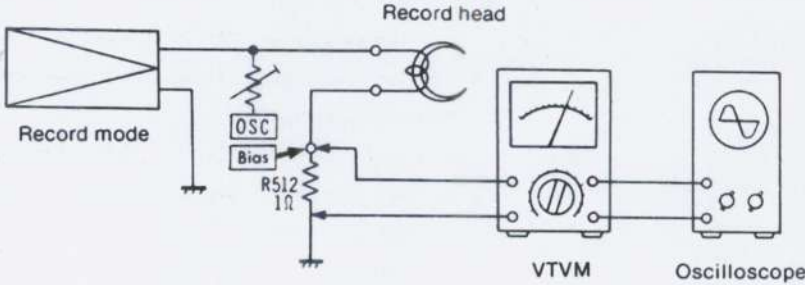
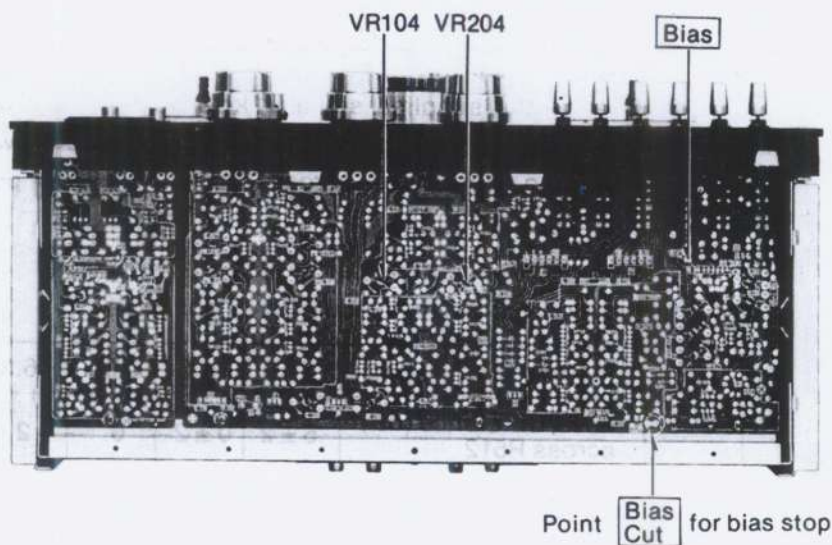

Fig. 61
Fig. 62
Bias current	<ol style="list-style-type: none"> 1. Test equipment connections are shown in fig. 61. 2. Set the bias selector to "2" position. 3. Set the tape speed to 38 cm/s. 4. Set the unit to the recording mode. 5. Set the recording mode selectors: L-CH to ON and R-CH to OFF. 6. Measure voltage across R512 (1Ω) (at point Bias) shown in fig. 62. 7. Next set the record mode selectors: R-CH to ON and L-CH to OFF. 8. Measure voltage at point Bias. 9. Bias current is calculated by formula below. $\text{Bias Current} = \frac{\text{Voltage read on VTVM}}{1\ \Omega} \text{ (V)}$ <div style="border: 1px solid black; padding: 5px; margin: 10px 0;"> <p>Standard value at 38 cm/s tape speed and at "2" position of Bias Selector: around 3 mV</p> </div> <ol style="list-style-type: none"> 10. Next set bias selector to "1" position, and measure the bias current in the same way as described in steps 3 to 9 above. 11. Confirm that the bias current is 10% less than at the "2" position of the bias selector. 12. Next set bias selector to "2" position and confirm that bias current is 10% greater than at the "2" position of the bias selector. <p>In the same way, measure bias current at 9.5 cm/s tape speed. (Standard value at "2" position of bias selector is around 2.6 mV.)</p>
Recording current	<ol style="list-style-type: none"> 1. Test equipment connections are shown in fig. 61. 2. Stop the bias oscillation by unsoldering the connection point Bias Cut for bias current ON/OFF shown in figure 62. 3. Thread blank test tape QZZORA218EX. 4. Set the tape selector to "38" position. 5. Set the equalizer selector to "2" position. 6. Supply 1 kHz signal ($-22\text{dB} \pm 1\text{dB}$) from AF oscillator, through ATT, to balanced type line input connectors and adjust ATT until source monitor level at balanced type line output connectors on VTVM becomes 1.228V. 7. Set the recording mode selectors to "ON" (L-CH) and "OFF" (R-CH). 8. Place unit into recording modes.
1. Test equipment connections are shown in fig. 61.
Overall gain	<ol style="list-style-type: none"> 1. Test equipment connections are shown in fig. 48. 2. Thread blank test tape QZZORA218EX. 3. Supply 400Hz signal ($-22\text{dB} \begin{smallmatrix} +1 \\ -3 \end{smallmatrix} \text{dB}$) from AF oscillator, through ATT, to balanced type line input connectors. 4. Adjust ATT so that the output level at balanced type line output connectors on VTVM becomes 1.228V. 5. Place unit into recording mode. 6. Set the monitor selector to "Tape" position (both channels). 7. Then, measure the output level at balanced type line output connectors indicates 1.228V. <p>[Adjustment]</p> <ol style="list-style-type: none"> 1. If the measured value is not satisfied, adjust the overall gain adjustment VR, VR104 (L-CH) and VR204 (R-CH) shown in figure 62.